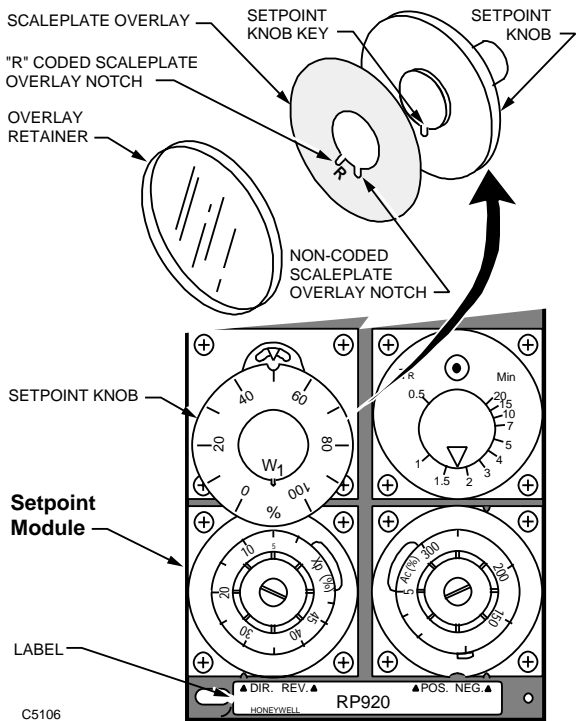

Fig. 7. Setpoint ( $W_1$ ) Adjustment.
1. If using a scaleplate overlay, insert the overlay between the setpoint knob and the transparent overlay retainer. Note positions of the key and non-coded scaleplate overlay notch (Fig. 7).
1. Adjust the setpoint knob to 100 percent (Fig. 7) or to the maximum remote setpoint limit to be applied.
3. Note the position of key on the setpoint knob and the non-coded scaleplate overlay notch (Fig. 7) for controllers with U.S.A. labels. Controllers (RP920B,C,D) with German labels must use "R" coded scaleplate overlay notch when using a CPA device.